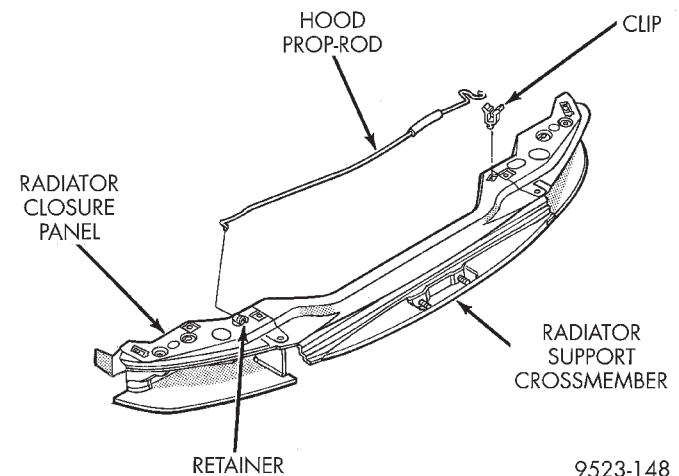

Fig. 6 Hood Prop Rod
- (2) Using a length of wooden dowel rod, prop hood open.
- (3) Disengage prop-rod from retainer holding prop-rod to radiator closure panel (Fig. 6).
- (4) Separate prop-rod from vehicle.